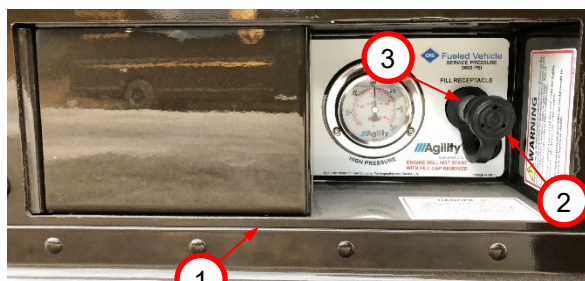

Figure 1.
3. Remove fill receptacle dust cap (2) by gently pulling and rotating the retention loop (4) out of the retaining groove on the fuel receptacle (3). *Figures 1 and 2*